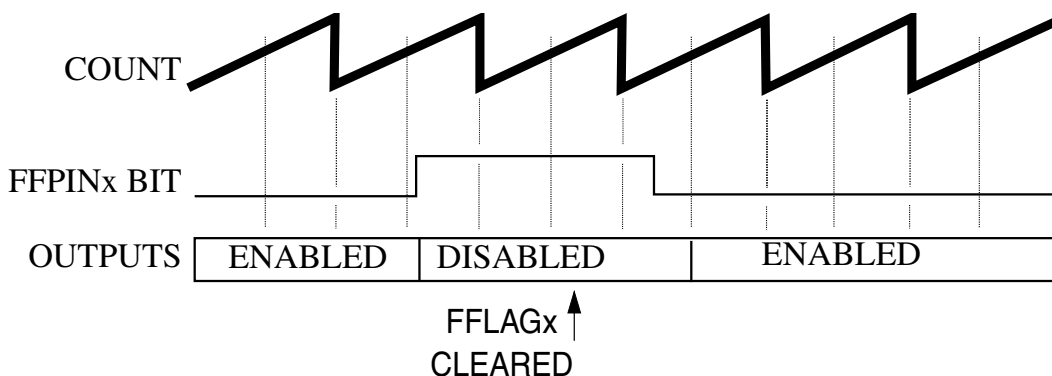

Figure 27-31. Manual fault clearing (FCTRL[FSAFEx] = 1, FSTS[FHALFx] = 1)
- The filter detects a logic zero on the `FAULTx` pin at the start of the next PWM full or half cycle boundary, as shown in Figure 27-31. If `FSTS[FFULLx]` is set, then the disabled PWM pins are enabled at the start of a full cycle. If `FSTS[FHALFx]` is set, then the disabled PWM pins are enabled at the start of a half cycle.